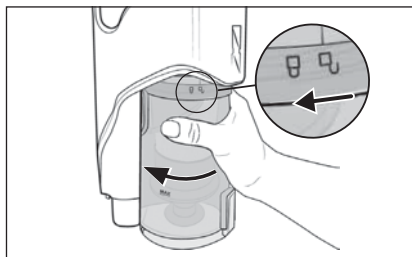

Fig. 19
- 2) To remove the dust container **7** from the appliance, turn it towards the symbol  (open) until it can be detached from the appliance (see Fig. 19).